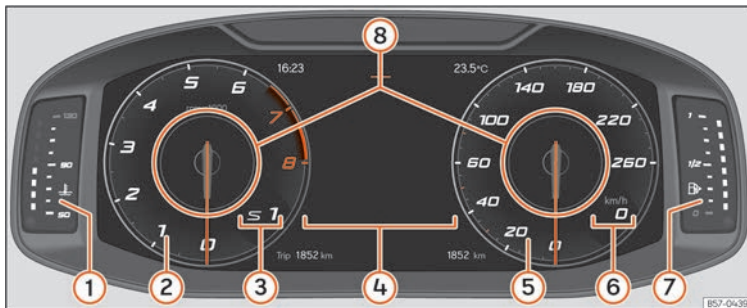

Fig. 55 SEAT Digital Cockpit on the instrument panel (classic view).
»» **Fig. 55** ⑧.
» **Fig. 55.**